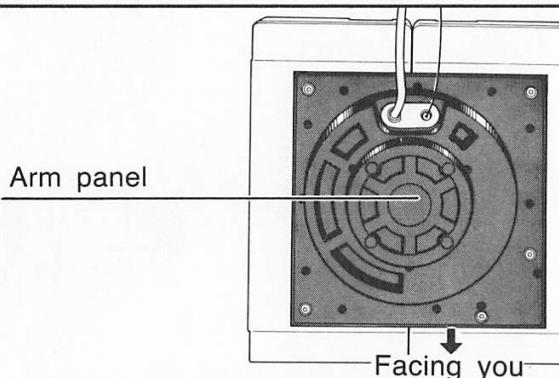

Fig. 3
- ② Turn the SP-10MK3 over and mount it on the supporting frame. (Fig. 3)